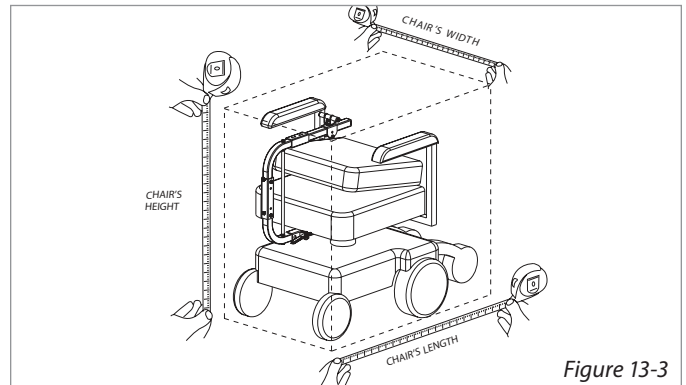

Figure 13-3
- 2. Fold the chair or scooter's seat back** (or remove seat), preferably with the docking device attached, to roughly observe the chair's transportable dimensions. Measure length, width and height. [Figure 13-3]